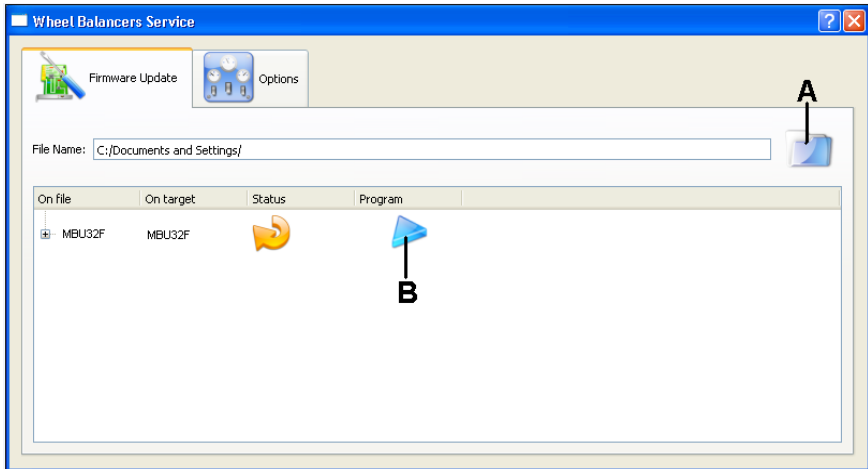

Fig.5a
- Select the folder icon A of figure 5a and upload in the programme the file with the .cef extension relative to the firmware version to update, previously downloaded from the web.
- Activate the Firmware Update and select the icon B, figure 5a to start the programming procedure.